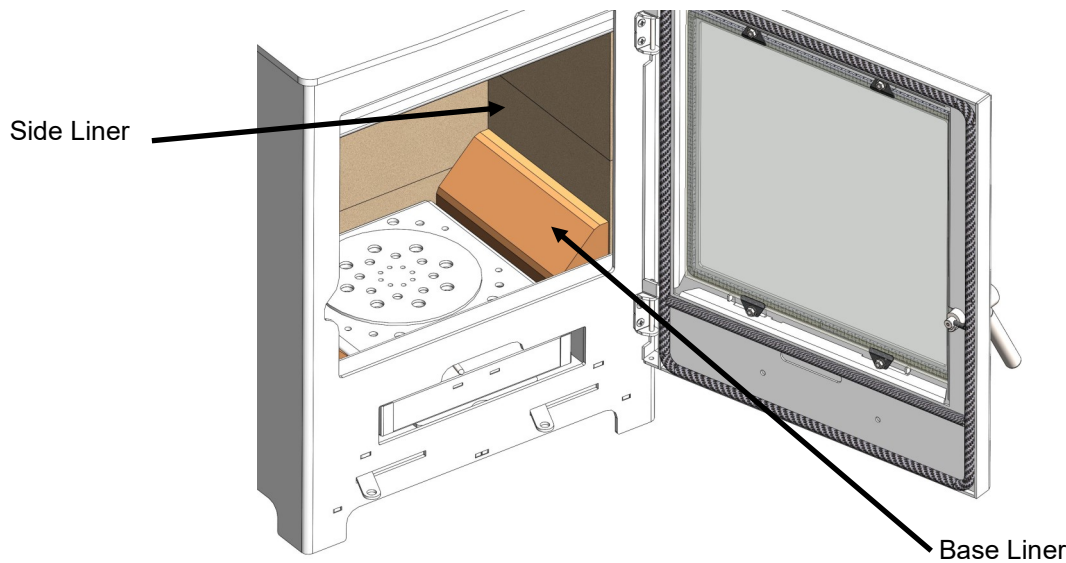

Figure 2. Placement Of Base Liner
Step 4 : Take one of the ceramic solid fuel base liners and place into the firebox along side the revolving grate. Ensure the largest side of this liner is against the side liner. See figure 2. Repeat the process for the remaining side.